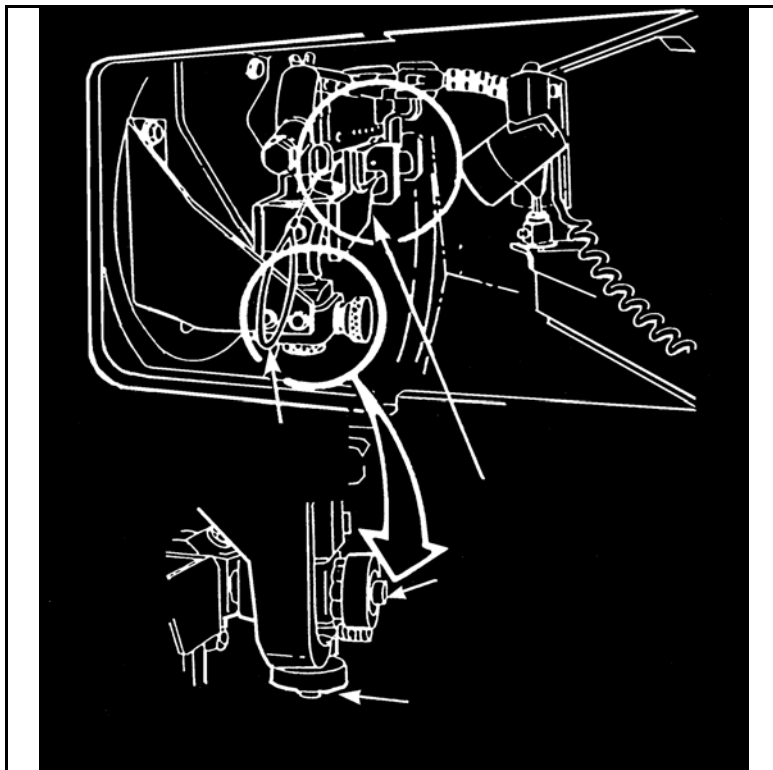

Figure 5. Azimuth and elevation adjustment knobs.
7. Elevate or depress the M240C machine gun using the elevation adjustment knob as directed by the helper to align the elevation crosshair in the reticle of the boresight telescope on the aiming point of the target (Figure 5).
8. Traverse the M240C machine gun to the left or right using the azimuth adjustment knob as directed by the helper to align the azimuth crosshair in the reticle of the boresight telescope on the aiming point of the target (Figure 5).